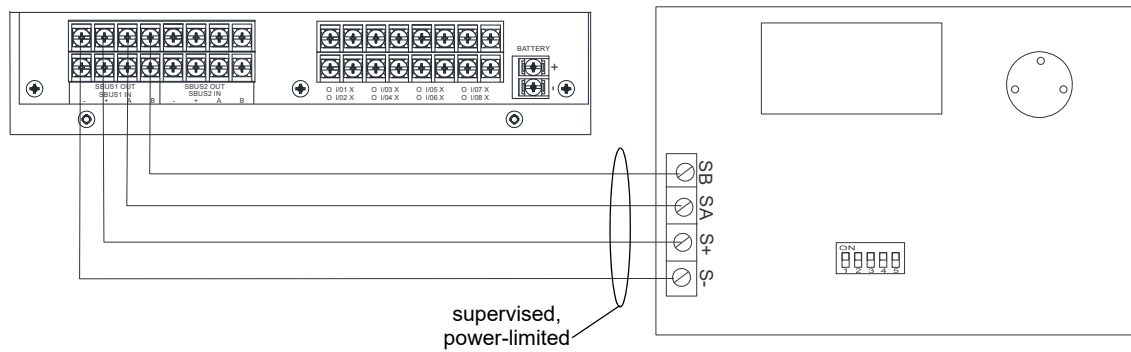

Figure 4.22 RA-1000 Connection to the Panel
3. Connect the RA-1000 to the panel (see Figure 4.22).
4. After the annunciator wiring to the panel has been completed (refer to Figure 4.22), replace the electronic assembly in the back box. Place the bezel over the back box and tighten the set screws on the bezel.